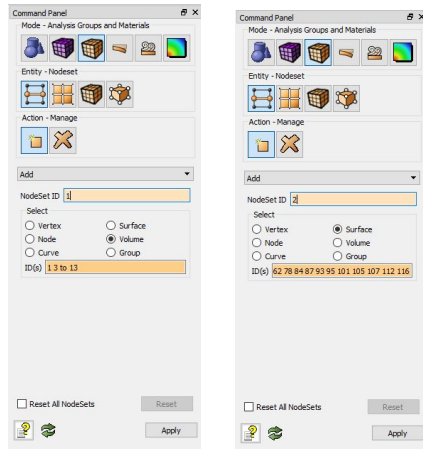

Figure 21: Nodeset
Step 4 Nodeset.(Figure.21)
- (1) nodeset 1 add volume all
- (2) nodeset 2 add surface